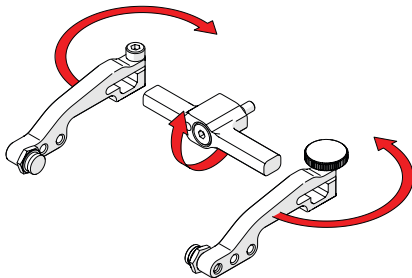

**Fig. 44** - Unscrew yoke pivot screw
1. Unscrew the yoke from the swing arm (*Fig. 44*).